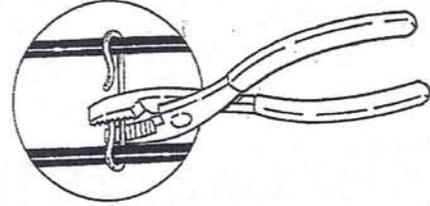

Figure 18. Squeezing spacers with pliers
- While the cable is being laid in the gutter, the spacers can be tightened with fingers or pliers. If you use pliers, squeeze gently and use care to avoid pinching, crimping, cutting into or otherwise damaging the cable (see Figure 18). Do not use a hammer to tighten the clips and spacers.
Once you know the length of cable needed, the next step is to install spacers and feed the cable into the downspout. Spacers must be attached to the cable every 6 inches so that the cable does not touch itself in the downspout. You must tighten the spacers before the cable is installed in the downspout. You may do this with your fingers or pliers. If you use pliers, squeeze gently and use care to avoid pinching, crimping, cutting into or otherwise damaging the cable (see Figure 18). Do not hammer to tighten the clips and spacers. Pull the cable into the downspout using a weighted string.
**Tighten clips and cable spacers.** Tighten clips and spacers on the roof. You may do this with your fingers or with pliers. If you use pliers, squeeze gently and use care to avoid pinching, crimping, cutting into, or otherwise damaging the cable (see Figure 18). Do not use a hammer to tighten the clips and spacers.